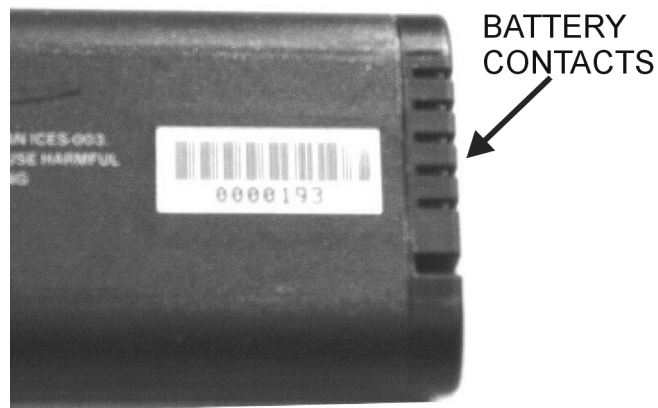

Figure 10. Battery Contacts
5. Replacement is the opposite of removal. Note the orientation of the battery contacts, and be sure to insert the new battery with the contacts facing the bottom of the unit, as illustrated in Figure 10.